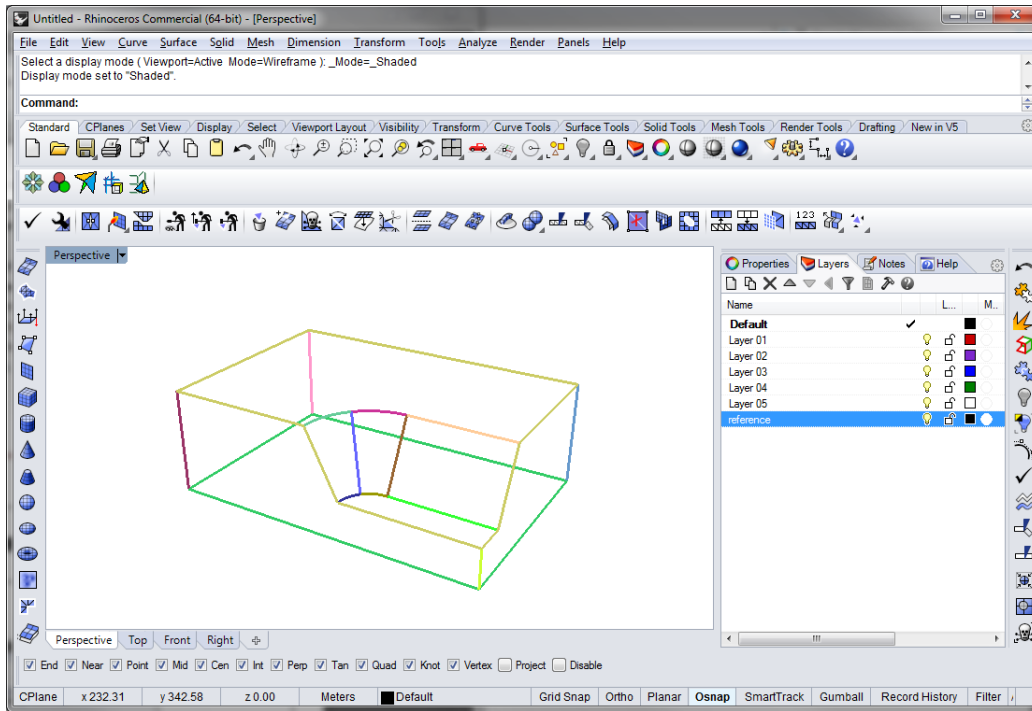

Figure 54: The reference model.
3. Click on the **Edit Layers** icon to open the **Layers** pane to the right of your *Rhino* window. In the **Layers** pane, click on the **black square** indicating the current **color** of the **reference** layer and select **Aquamarine** to change the color of this layer to aquamarine. Select Shaded View (see subsection Thicker lines in section Setting up your work environment) and maximize the Perspective Viewport (Figure 54).